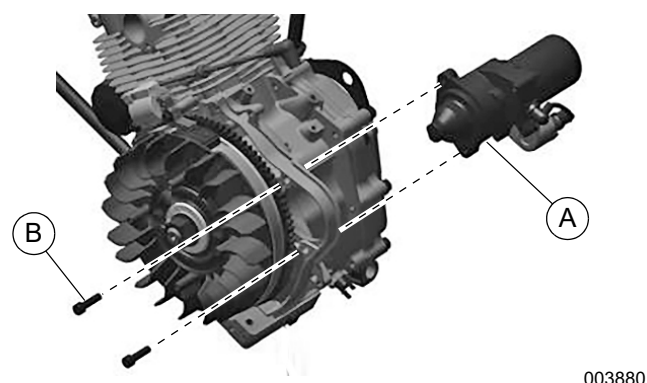

Figure 14-62. Install Starter
- See **Figure 14-62**. Install starter assembly (A) using two fasteners (B). Tighten fasteners to 20.3 ft-lbs (27.5 Nm).